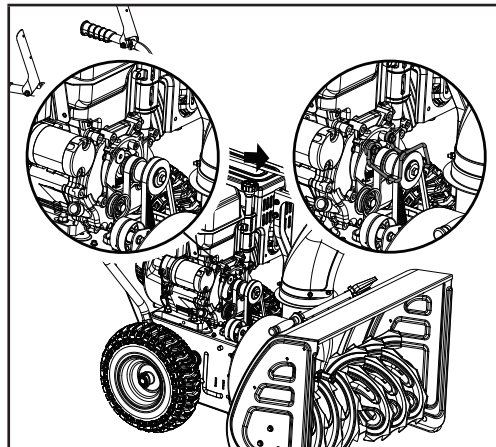

Figure 43
- Place the belt guard back into place and install the bolts (20 mm/30 mm) that were removed earlier. Once reinstalled, make sure there is equal distance on both sides between the pulley and the guard (Fig. 43).